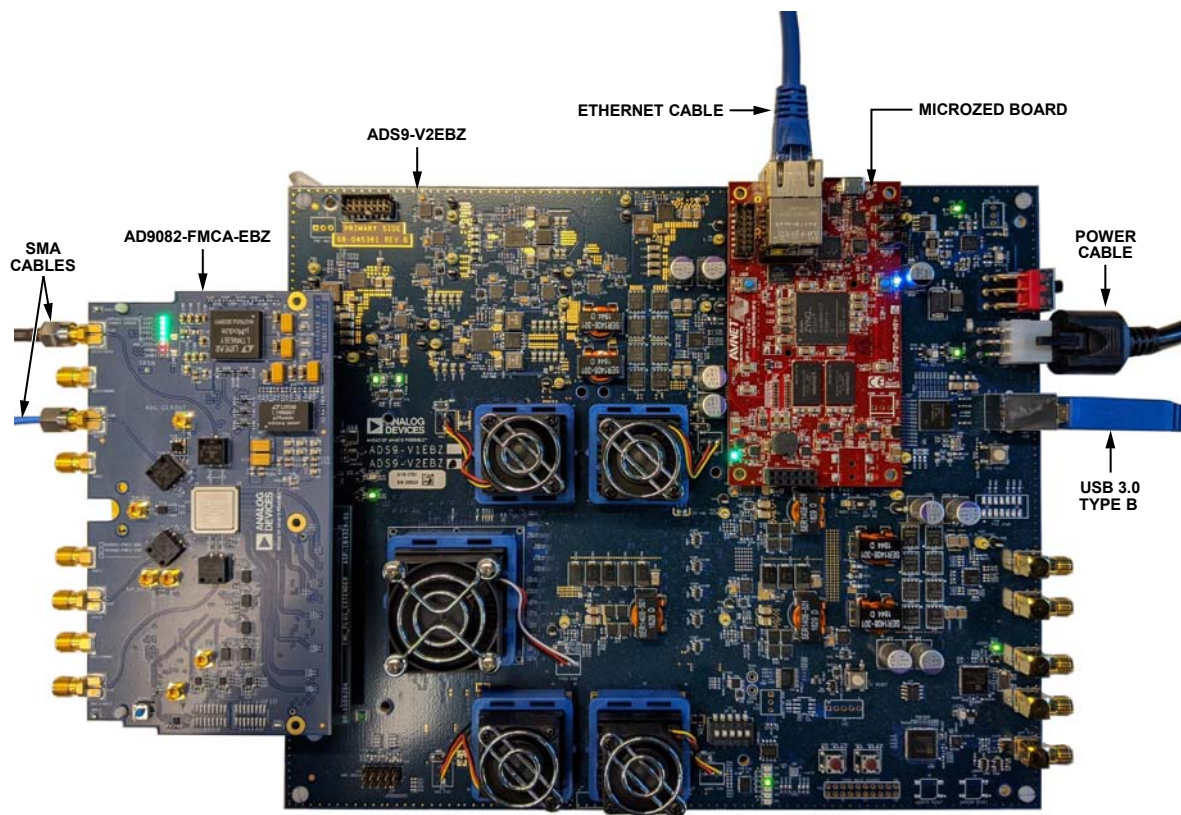
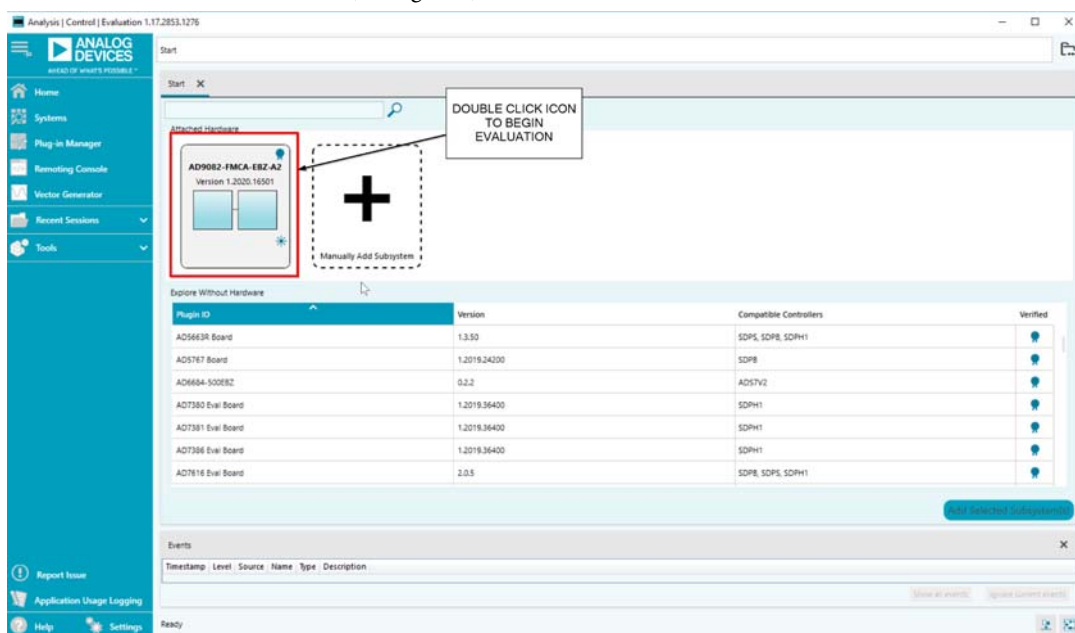

Figure 3. Bench Setup for Evaluation of the AD9081 or AD9082
Figure 7. ACE Initial Window Showing Attached Hardware
Figure 3 shows the basic hardware setup required to evaluate the AD9081 or AD9082 (AD9082-FMCA-EBZ shown as an example). This setup uses the on-board clock to manage the clocks for the AD9082 as well as the FPGA for proper functioning of the transceivers.
The AD9081 or AD9082 plugin allows the user to evaluate the AD9081 or AD9082 chip via the AD9081-FMCA-EBZ or AD9082-FMCA-EBZ evaluation board. First, ensure the board is connected with all proper hardware as shown in Figure 3. Next, ensure that the ADS9-V2EBZ board is powered on before opening ACE. When the user opens the ACE software, the plugin appears in the **Attached Hardware** section (see Figure 7).
3. As a precaution, ensure that the MicroZed board is seated properly on the ADS9-V2EBZ, as shown in Figure 3. Only a visual inspection is needed.
1. Ensure that the connections to ADS9-V2EBZ are as shown in Figure 3. It is not necessary to connect the AD9082-FMCA-EBZ evaluation board.